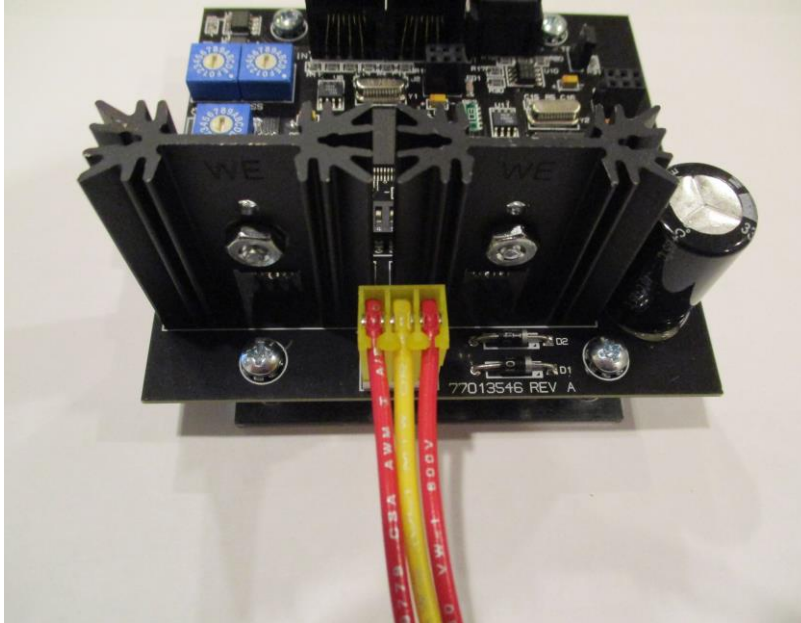

Figure 3 Power Connection
- Connect the power from the panels Power Distribution Board using the cable provided to the power connector on the module as shown in Figure 3 and 4. Note: If needed, the cable can be extended with 16AWG stranded to reach the module. A separate 24VAC CT transformer may be used if desired.